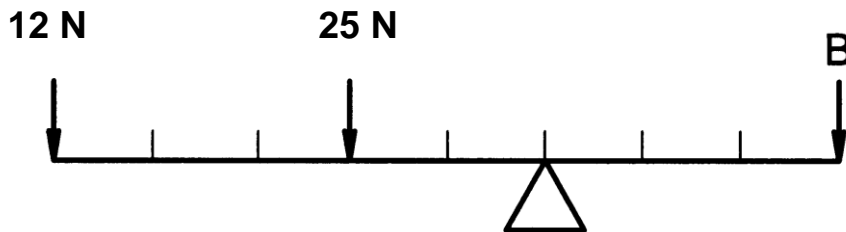

Fig. 2.5
- 2.5 Figure 2.5 shows a beam with two known forces and a pivot point in the centre of the beam. Calculate the force needed at **B** to balance the beam. Use the following formula to guide your calculation: